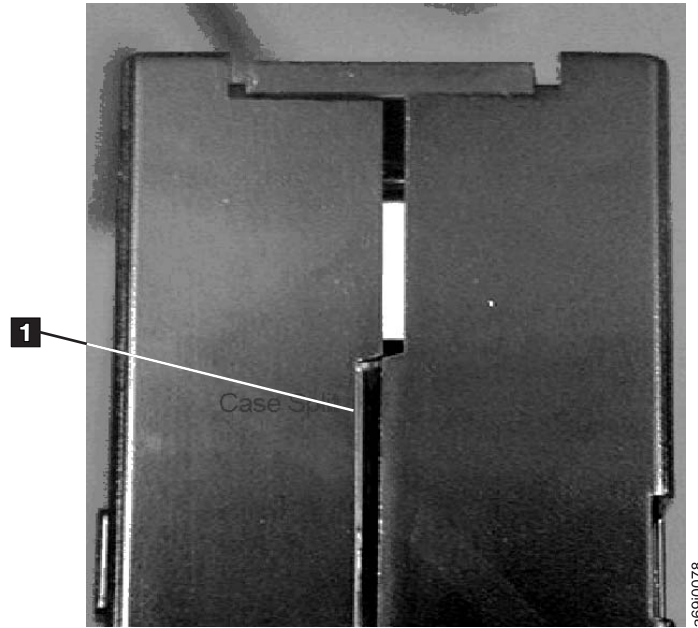

Figure 119. Checking for gaps in the seams of a cartridge
- \_\_\_ Step 3. Inspect the rear of the cartridge (the part that you load first into the tape load compartment) and ensure that there are no gaps in the seam of the cartridge case (see **1** in Figure 119). If there are gaps in the seam, the leader pin may be dislodged. Go to “Repositioning or Reattaching a Leader Pin” on page 152.